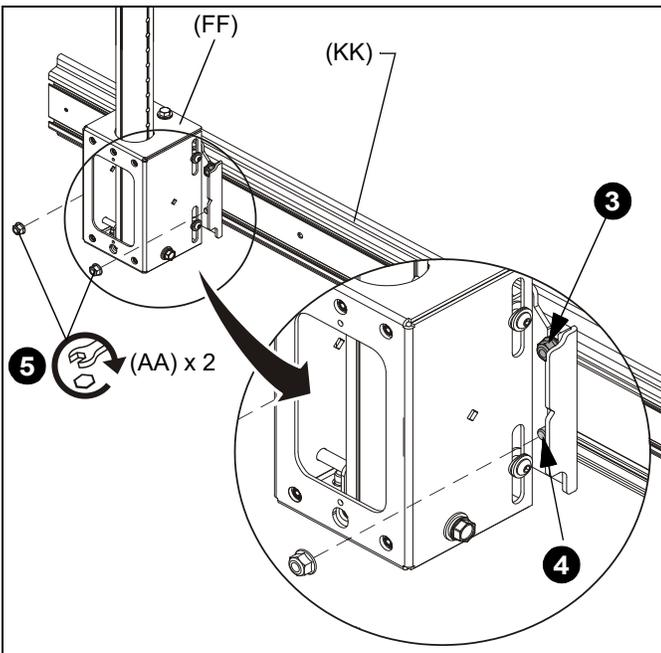

Figure 13
- Tighten array head to mounting rail by tightening lock nuts on upper T-slot studs and adding two 5/16" lock nuts (AA) to lower T-slot studs. (See Figure 13)